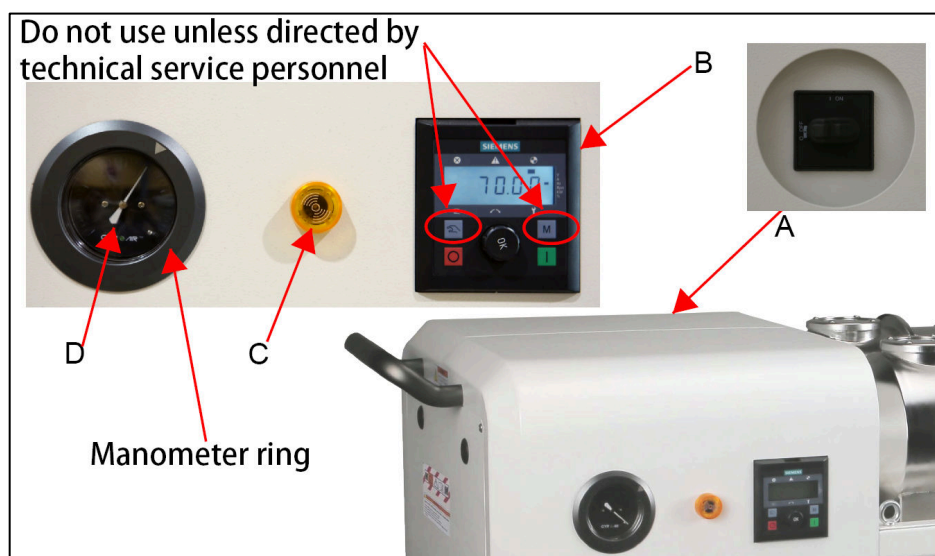

Fig.13
5.1 The operating and instructions of electrical components (Fig.13)
1. Do not use the circled button as Fig.13. If you have operated the circled button, you must power off this machine 10S, then power this machine again to restore the initial setup.
5.2 The operating of manometer (Fig.13)